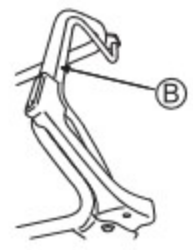

Fig. 6
4. Push Drive clutch lever (B) forward to start mowing. (See Fig. 6)